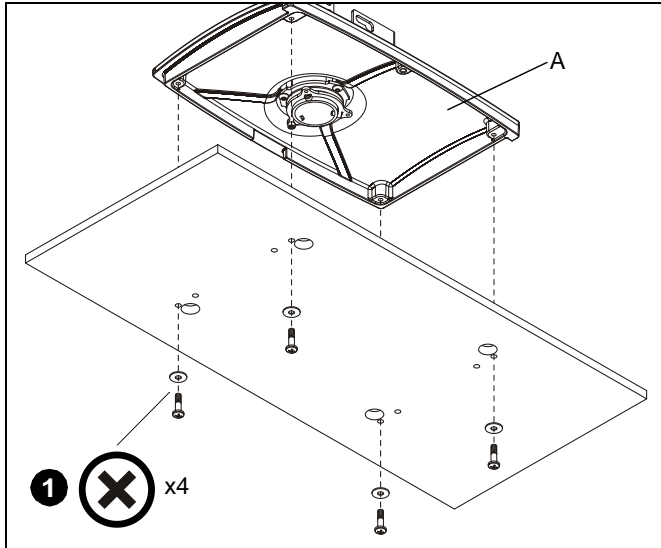

Figure 1
1. Remove shipping base from stand (A) (See Figure 1).